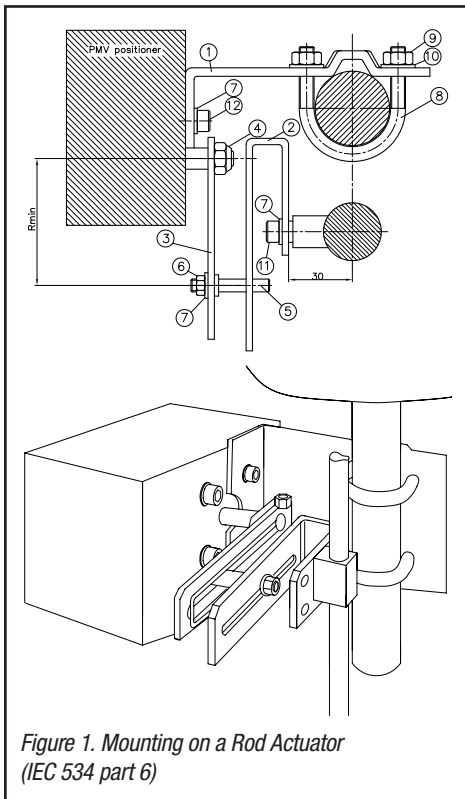

Figure 1. Mounting on a Rod Actuator (IEC 534 part 6)
## Mounting the Follower Arm (figures 1 and 2)
## Mounting the stem clamp bracket and take-off arm (figure 1)
**Mounting the positioner (figure 1)**